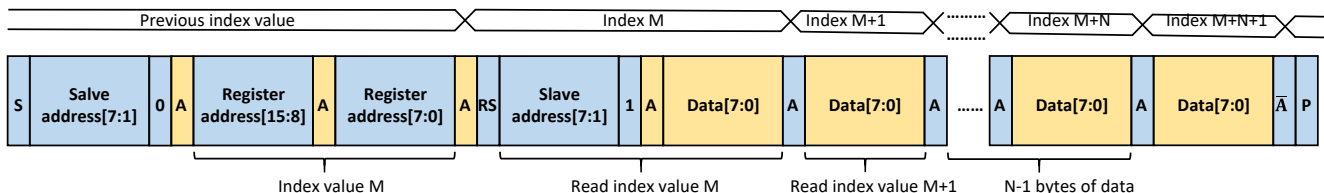

Figure 16. 2-wire serial communication interface timing diagram
1. Start and stop condition (refer to *Figure 16* for detail)